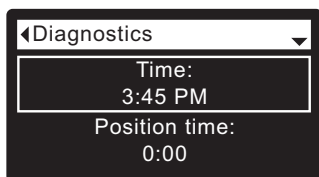

FIG. 90
8. Press the SELECT (O) button to display the Diagnostics screen (See Figure 90).